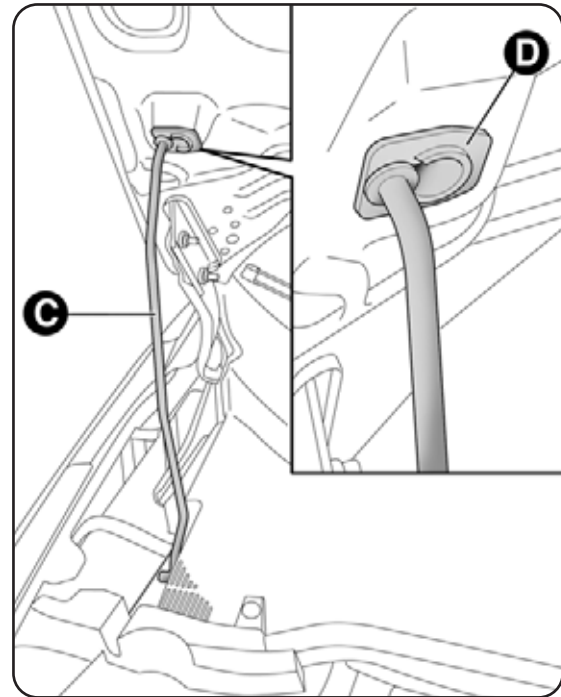

fig. 67
- lift the bonnet and, at the same time, release the bonnet stay C - fig. 67 from its locking device. Then, insert the end in the housing D, making sure that the stay is engaged in the smallest opening of the retaining clip.
- hold the bonnet up with one hand and with the other remove rod C-fig. 67 from housing D and fit it back into its catch;